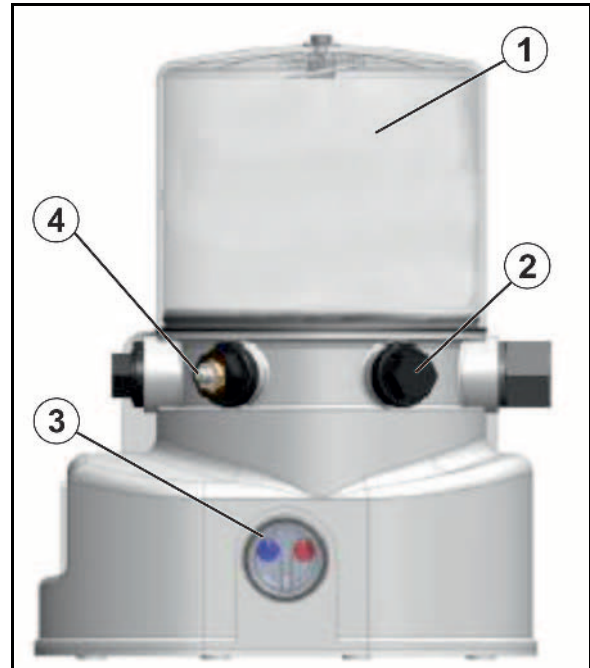

Fig. 36
1. Mount the holder tube (Fig. 36/1) with four-screws (Fig. 36/2) on the outside of the boom.
2. Screw two additional weights (Fig. 36/3) onto each holder tube (Fig. 36/4) and secure.